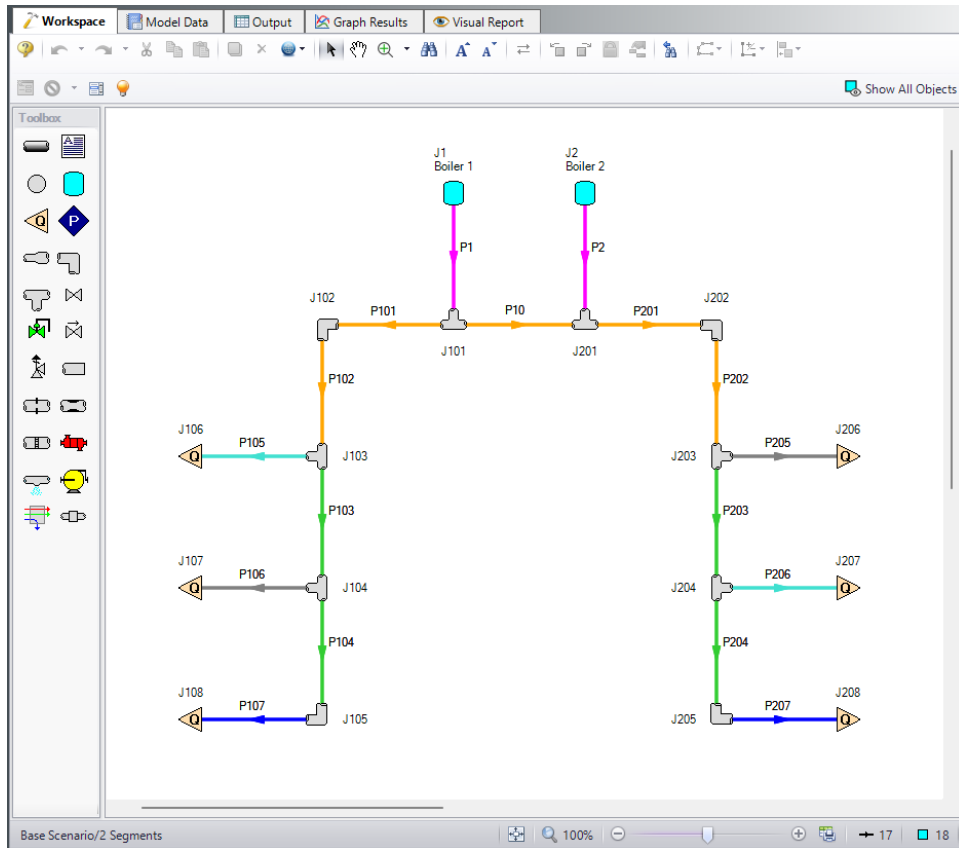

Figure 2: Process Steam model Workspace with the Common Size Groups indicated by color via Workspace Layers
To more efficiently size the system, it would be beneficial to create common size groups. In this system there are several sections of piping which would likely be grouped together. Create Common Size Groups as described below and indicated by the colors in Figure 2.
2. Using a common pipe size for the headers would be desirable in this system to reduce installation costs and reduce losses. However, grouping the headers downstream of users 1 and 4 separately could allow us to use a smaller size for those pipes and save costs. Create two groups, *Mains* and *Headers* as shown in orange and green respectively in Figure 2.